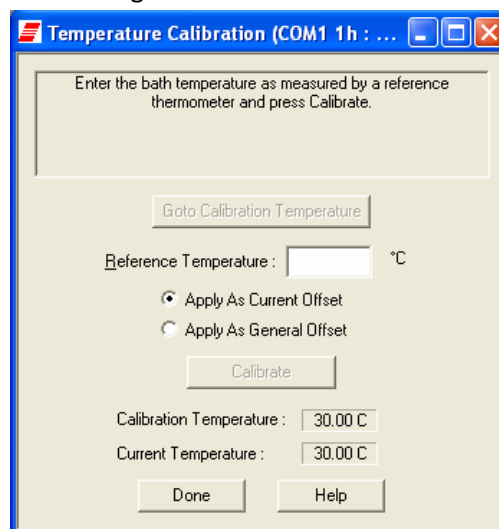

Figure 2: Reference Temperature Window
8. Enter the current temperature reading to the nearest 0.01 °C from the reference thermometer into the **Reference Temperature** display window as shown in Figure 2.